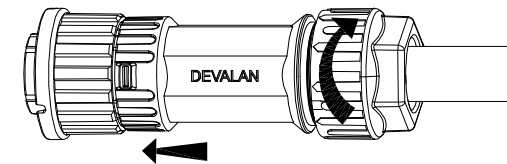

Figure 5.23 Assembly AC terminal
B) Clip plastic fixture (Auxiliary tighten) in socket element, tighten adapter in socket element, then tighten swivel nut with 3.5-4.5N.m torque (see figure 5.23).